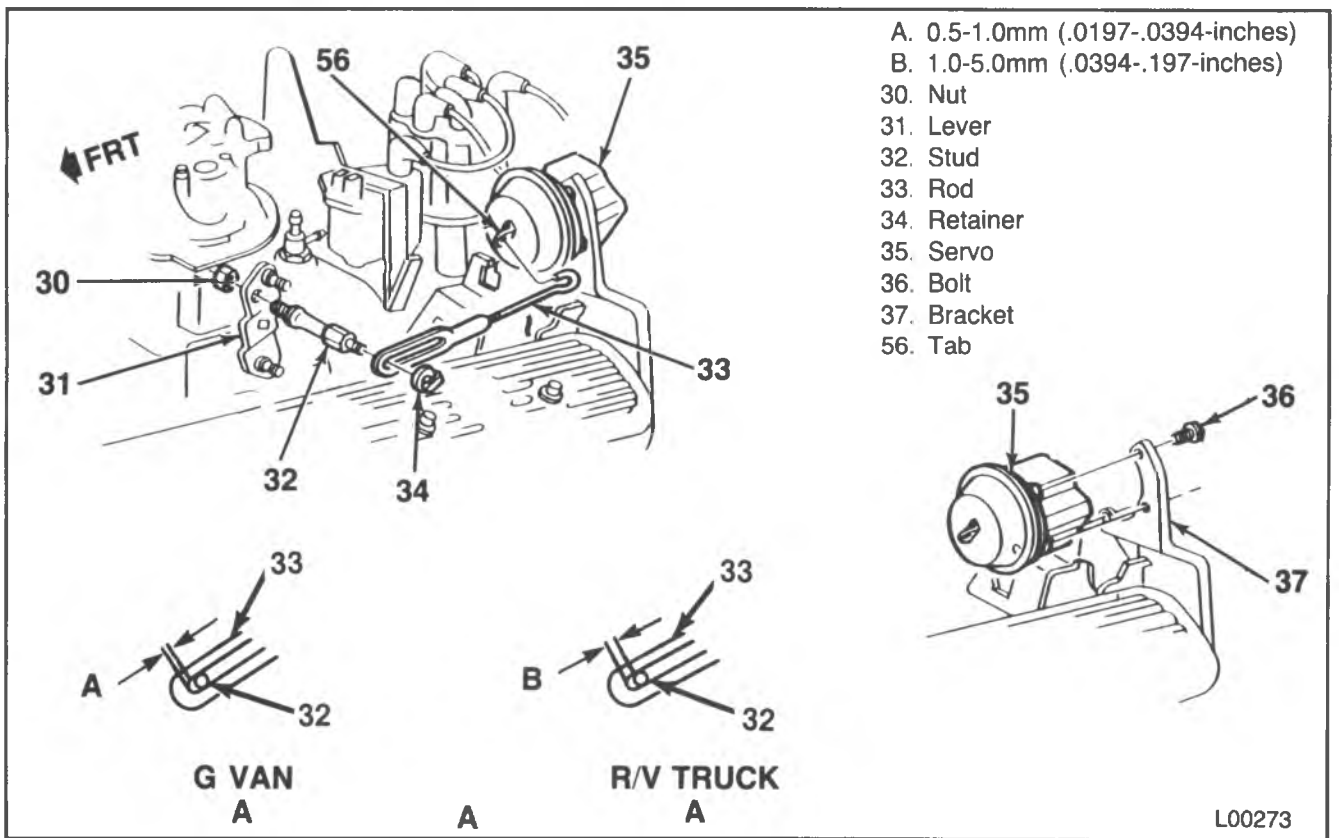

Figure 13 — Servo Mounting (Gas Engines)
Remove or Disconnect (Figures 13 through 18)
Install or Connect (Figures 13 through 18)
- Rod (33) so that it assembles over stud (32) per adjustment A or B (figure 13).